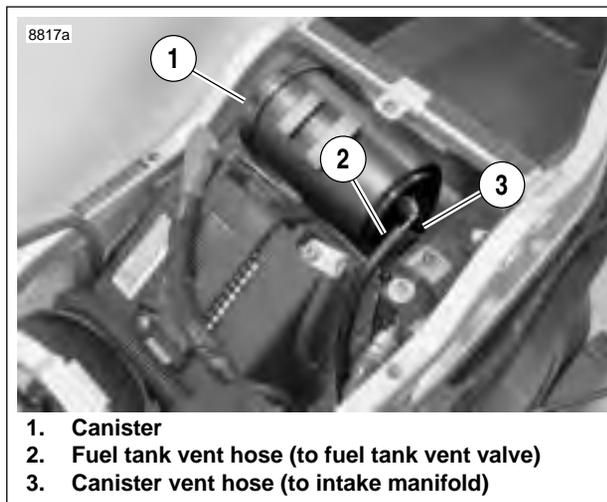

Figure 4-81. Carbon Canister Installation.
2. See Figure 4-81. The canister assembly mounts behind the battery in the tail section.
3. Label and disconnect the fuel tank vent hose (2) and canister vent hose (3) from the canister.
2. See Figure 4-81. Attach fuel tank vent hose (2) to canister if disconnected.
4. See Figure 4-81. Connect two hoses to the canister. Make sure to push hoses all the way on to carbon canister fittings.